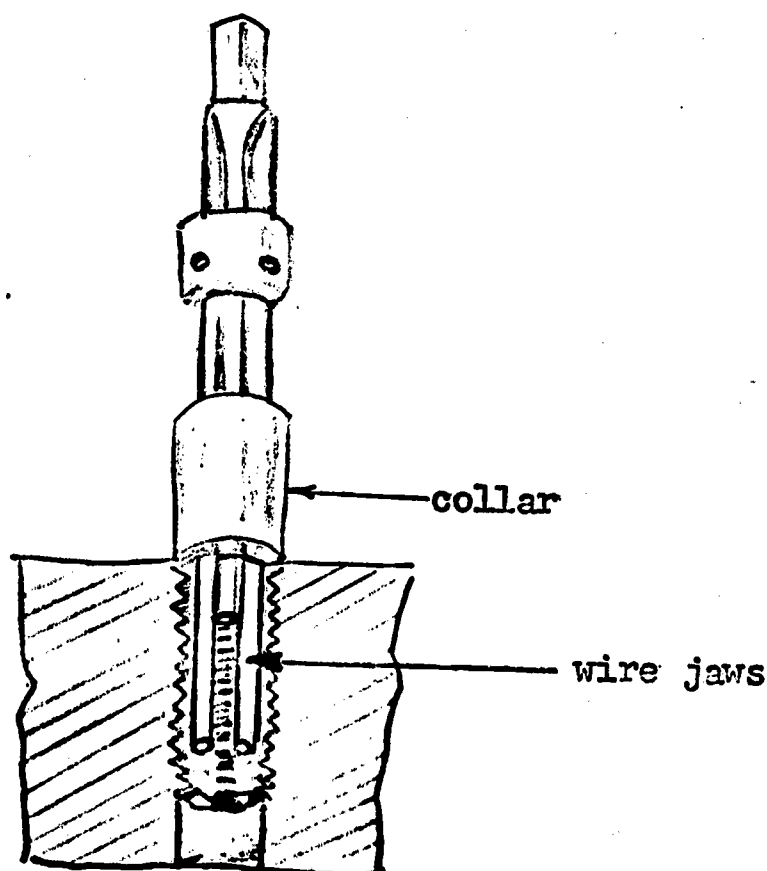

Fig. 1 Tap extractor and application.
1. Look at the hand snips in Fig. 1. They are:
2. Now go to the tool panel and pick one of each of these three hand snips. Do you have the correct ones: Check yourself by looking at Fig. 1.